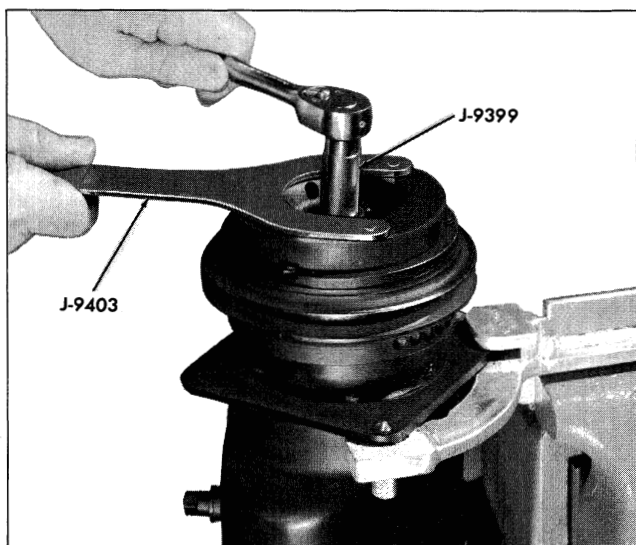

Fig. 4-14 Removing Hub and Drive Plate Lock Nut
1. Hold the clutch hub with J-9403 wrench and using J-9399 (special thin wall 9/16" socket) remove hub and drive plate assembly lock nut from shaft (Fig. 4-14).